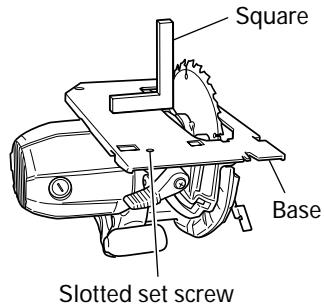

Fig. 20
(1) Turn the base face up (Fig. 20) and loosen the lever (A).